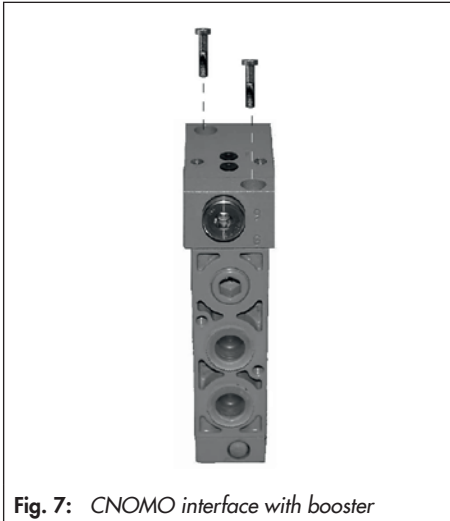

Fig. 7: CNOMO interface with booster
- Undo both hexagonal socket head screws (Fig. 6) and remove the black head. Make sure that the two black O-rings on the CNOMO interface do not get damaged (Fig. 7).
- Undo the two hexagonal socket head screws (Fig. 7) and carefully remove the CNOMO interface.
- Use the two hexagonal socket head screws to fasten the CNOMO interface (Fig. 7).